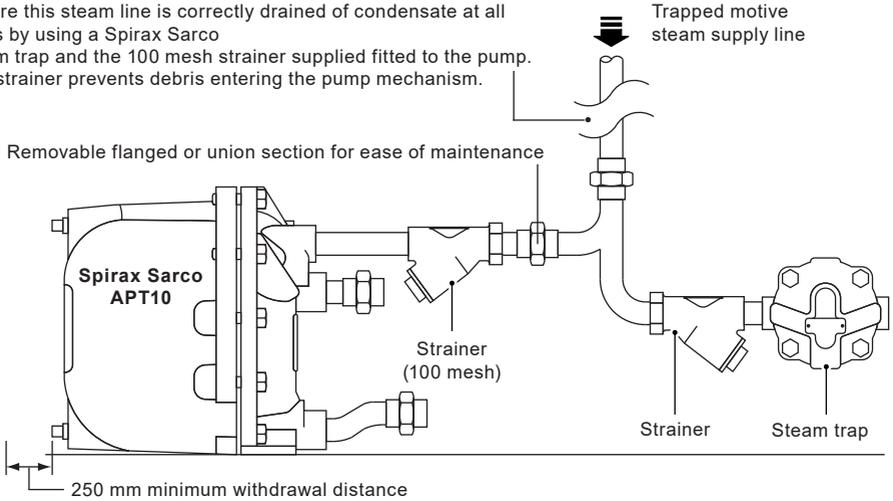

Fig. 4 Suggested coupling of motive supply and exhaust lines
3.3 Connections (refer to installation diagram Fig. 4 opposite)
- 4.1 After ensuring inlet and outlet pipe connections and steam motive/exhaust connections are coupled in accordance with Fig.4 and 5, slowly open motive steam inlet line to supply pressure to the APT10. Ensure exhaust/balance line is open and not restricted in any way.